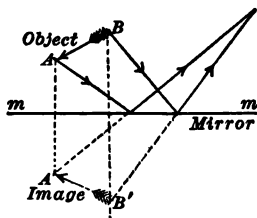

FIG. 387. — Image in a plane mirror.
**419. Images in a plane mirror.** We all know that if one stands in front of a plane mirror, he sees his own image and that of the objects about him, as if they were *behind the mirror*. In figure 387 we see that light coming from any